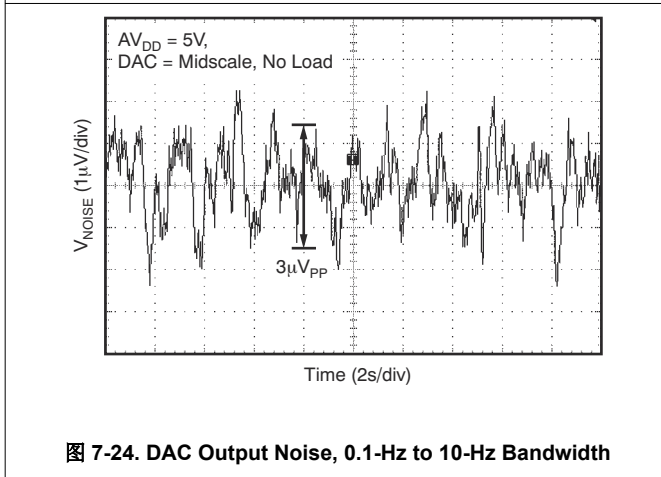

图 7-24. DAC Output Noise, 0.1-Hz to 10-Hz Bandwidth
- (5) For more details, see Figure 7-24.